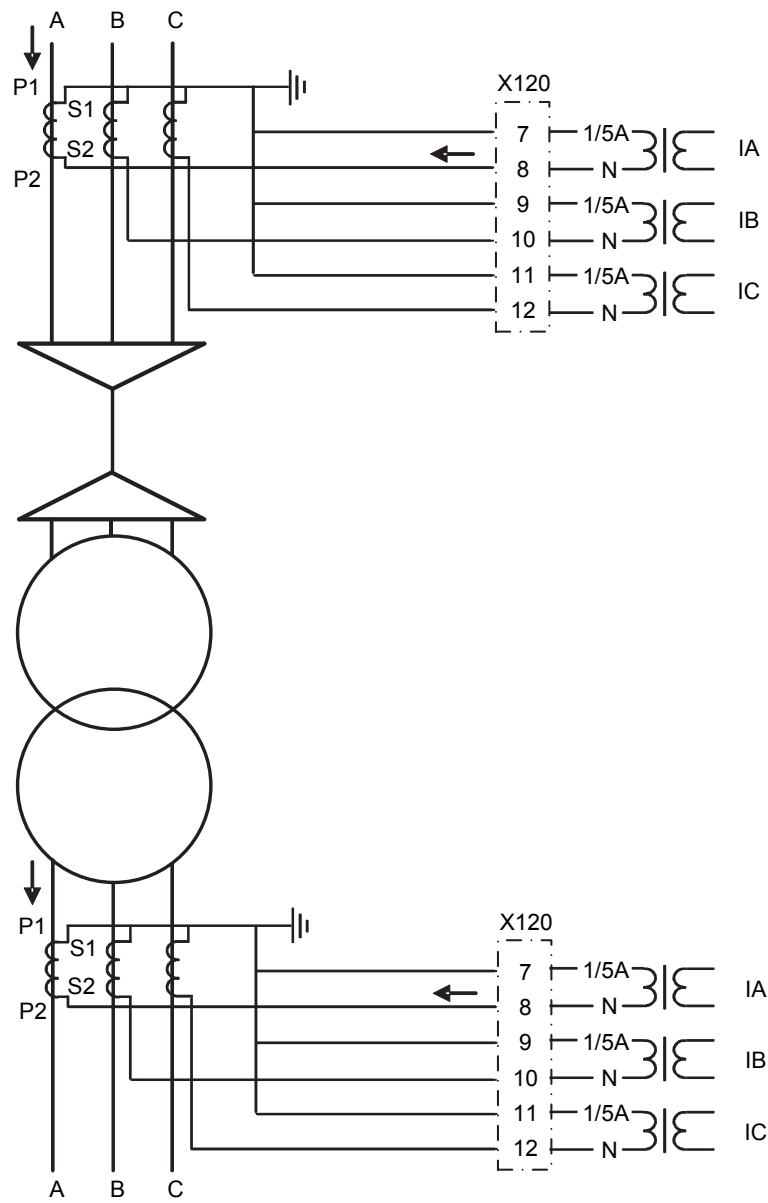
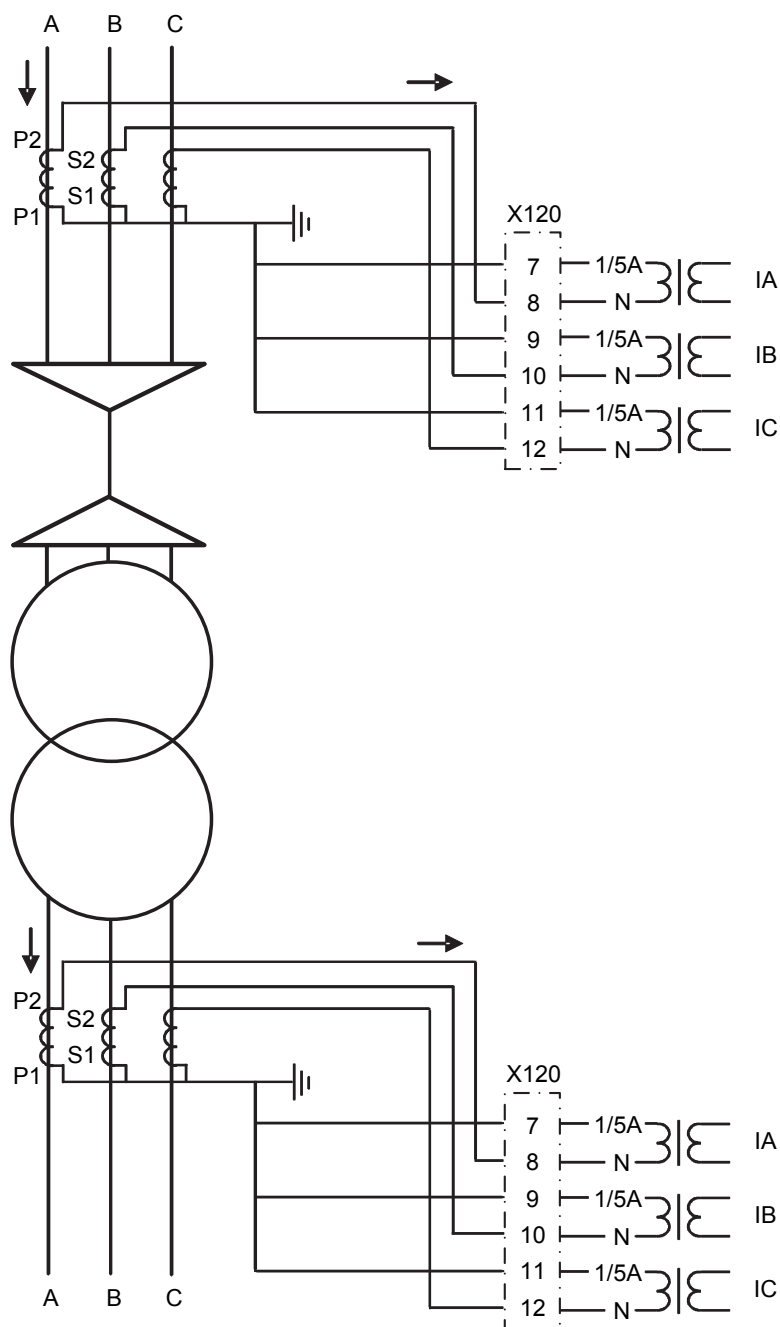

Figure 230: Connection example of current transformers of Type 2
Figure 231: Connection example of current transformers of Type 2
- If the positive directions of the winding 1 and winding 2 protection relay currents equate, the *CT connection type* setting parameter is “Type 2”. The connection examples of “Type 2” are as shown in the Figure 230 and Figure 231.